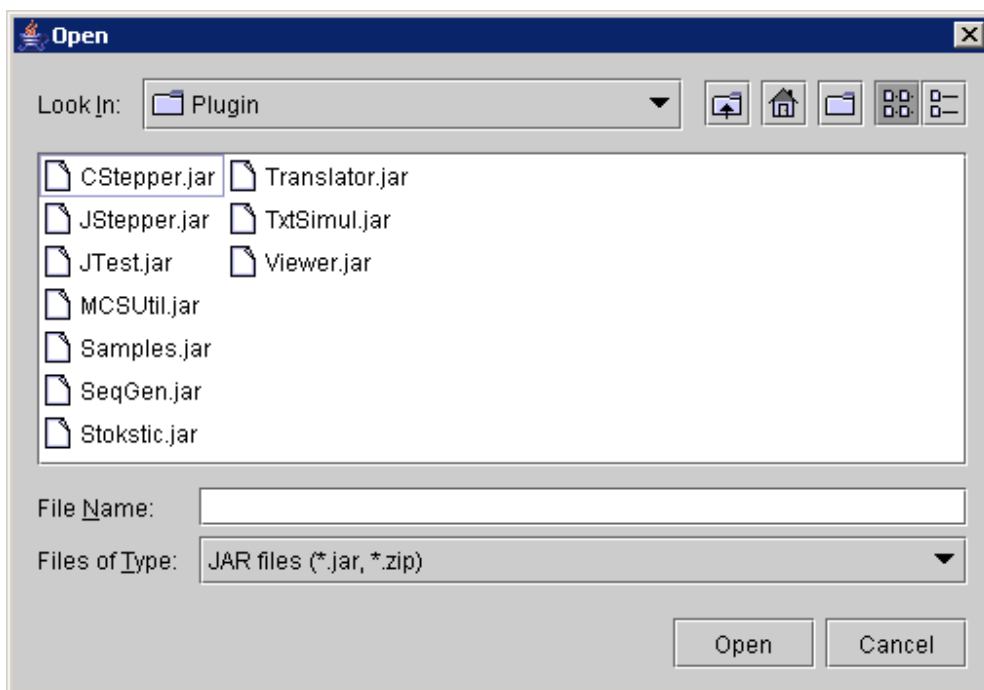

Figure 168 : Add plugins contained in JAR files
- Click on the **Add** button; the following window then appears (Figure 168):